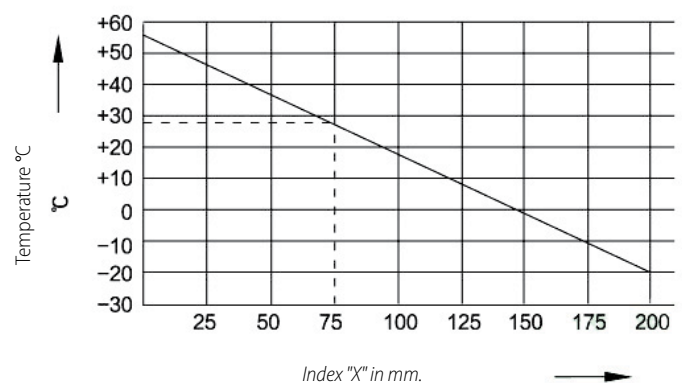

Fig.1
1. For conductor rail length exceeding 200 m. The maximum distance between the two reference points, between which the telescope section is located, is 100 m (see Figure 1).